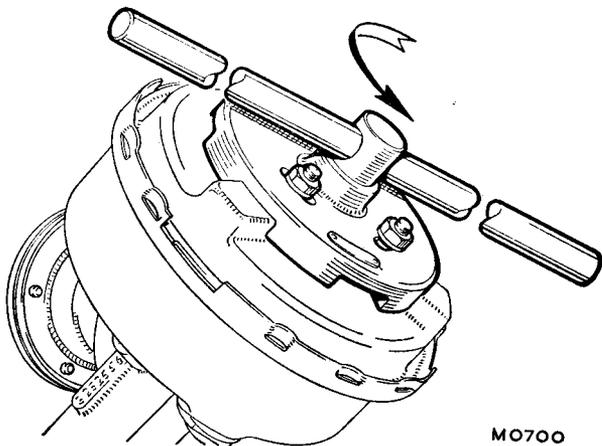

Fig. M.11
10. To remove the end cover from the servo shell, locate Service tool C2030* over the three studs and secure tightly with suitable nuts (see Fig. M.11). Turn the removal tool anti-clockwise with a ½ in. (13 mm.) square drive socket 'T' bar as far as the stops on the cover will allow and lift off the cover.
20. Refit and secure Service tool C2030* to the end cover (see Fig. M.11). Position the end cover with the shell so that the elbow will be in alignment with the air valve. Whilst maintaining a downward pressure on the cover, turn it clockwise as far as the stops will allow, taking care not to trap the edge of the rubber diaphragm. Remove the Service tool.